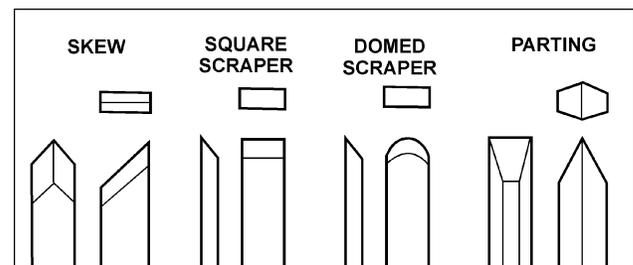

Fig. 11
**Skew** — used to make vees, beads, etc., see Figure 11.
**Square Scraper** — used for diameter scraping and featureless scraping, etc, see Figure 11.
**Large Domed Scraper** — used to reduce ridges on the interior of bowls, round edges of bowls, etc, see Figure 11.
**Parting Tool** — used to cut directly into the material, or to make a cut off. Also used for scraping and to set diameters, see Figure 11.